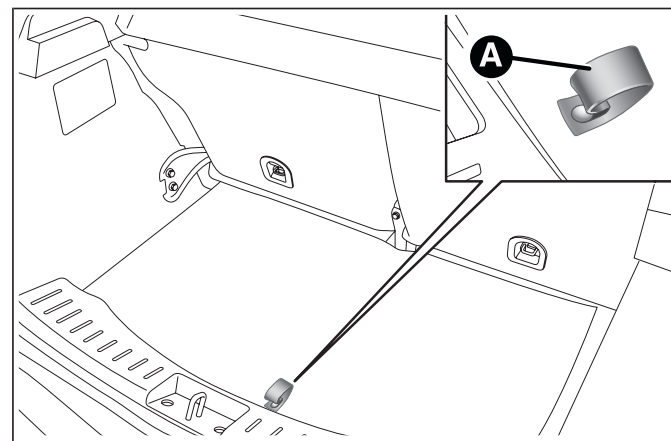

fig. 111
- ☐ open the luggage compartment, pull tab A fig. 111 and lift up the mat;